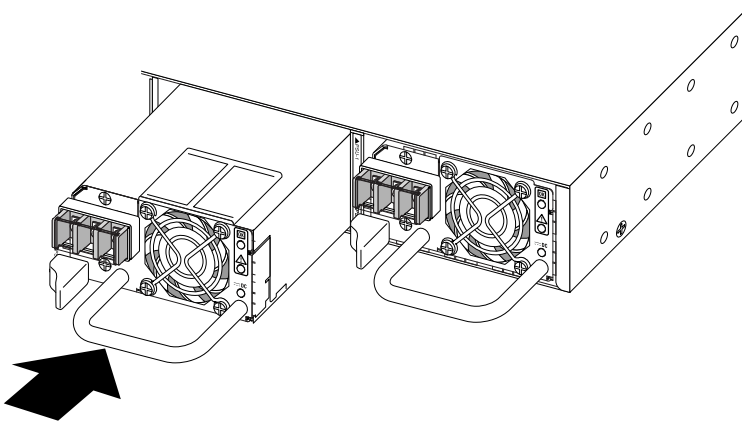

Figure 363: Installing a Summit 450 W or 550 W DC Power Supply
- 1 Verify that the replacement power supply is oriented the same as the unit you removed (see Figure 363: Installing a Summit 450 W or 550 W DC Power Supply on page 381). For a Summit X670 series switch, verify that the airflow direction of the power supply matches the airflow direction of the switch.
- 2 Carefully slide the power supply all the way into the power supply bay (see Figure 363: Installing a Summit 450 W or 550 W DC Power Supply on page 381).